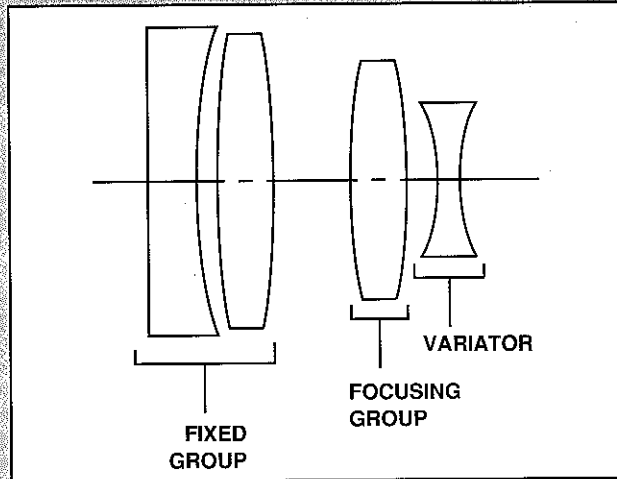

Figure 2. Internal focusing system for J14a x 8.5B IR5
Figure 2. Lateral chromatic aberration in a lens designed for tube cameras (A) and for CCD cameras (B) shows that performance of the CCD lens is better throughout most of the zoom range.
For example, consider the chromatic aberration when zooming an ENG tube lens and a CCD-compatible ENG lens. (See Figure 2.) The fluctuation of the aberration and its absolute value at the mid point in the zoom range are considerably different. A tube-camera operator can match camera and lens performance, but a CCD-compatible lens must maintain image deviation of less than 6μ for a 400,000-pixel CCD with a 12μ pixel pitch to avoid apparent registration error.
Internal focus lens technology is more complicated. The focusing lenses are mounted separately from the front lens. A helicoid screw, on which the focusing lenses are mounted, connects to the driving pin. (See Figure 2.) The pin moves the focusing elements back and forth, keeping the front lens elements and mechanical barrel stationary. In essence, the focusing elements "float"